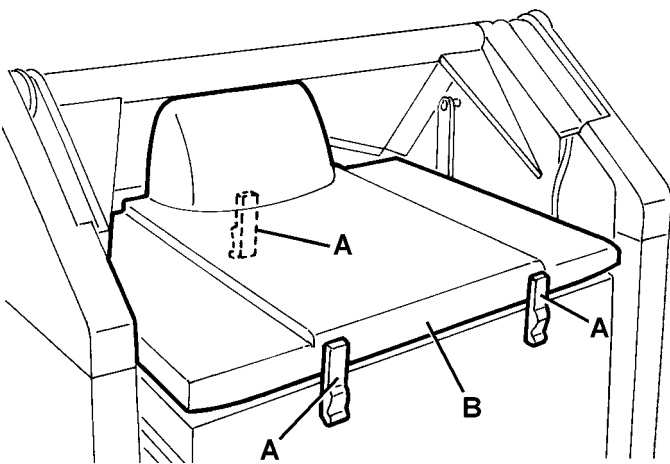

Figure 12
1. Drive the machine on a level ground and engage the parking brake with the pedal (84) and the lever (76).
2. Turn the ignition key (69) to "0".
3. Open the hood (23) and secure it with the support rod (55).
4. Release the fasteners (A, Fig. 12) and remove the dust filter cover (B).